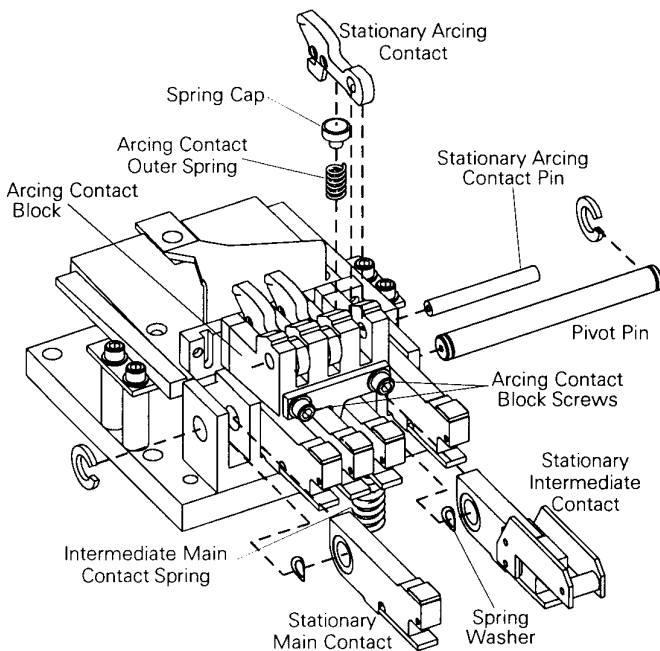

Figure 6-3. Replacing stationary contacts.
Use the following procedure to replace the stationary arcing contacts, as illustrated in Figure 6-3.
2. Lift off the stationary arcing contact arms. Remove the spring cap and two springs under each contact arm (there is also an inner spring not shown in Figure 6-3).